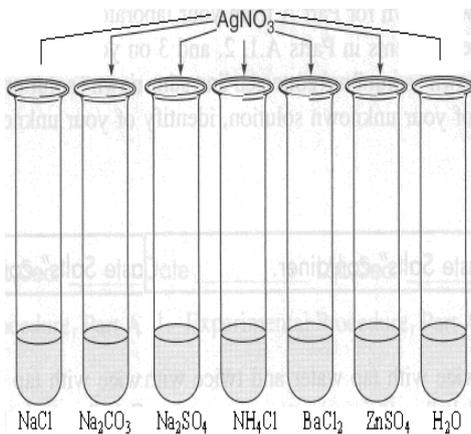
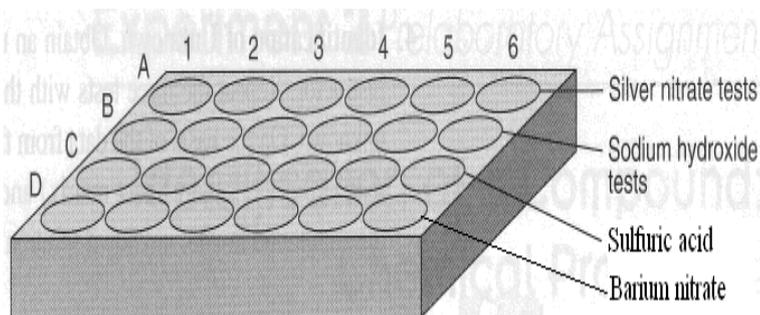
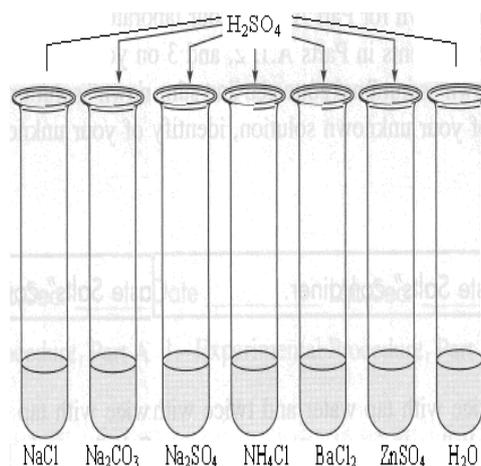
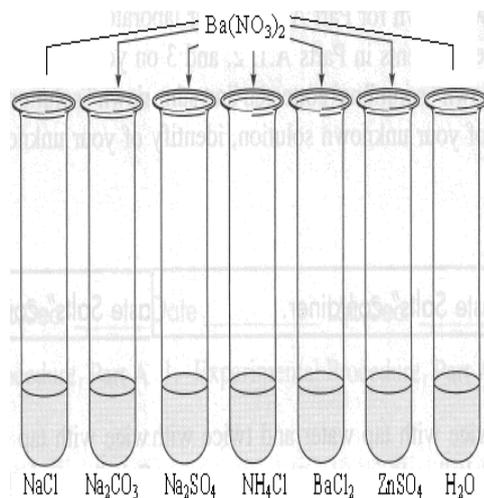

Figure 3.2a Arrangement of test tubes for testing with the silver nitrate
Figure 3.2b Arrangement of test solutions in the 24-well plate for testing salts
Figure 3.4 Arrangement of test tubes for testing with the sulfuric acid reagent
Figure 3.5 Arrangement of test tubes for testing with the barium nitrate reagent
- Use a permanent marker to label seven small, clean test tubes (Figure 3.2a) or set up a clean 24-well plate (Figure 3.2b). Ask your instructor which setup you should use. Place 5-10 drops of each of the seven "known" solutions into the labeled test tubes .
- Use a permanent marker to label seven additional small, clean test tubes (Figure 3.4). Place 5-10 drops of each of the seven "known" solutions into this four set of labeled test tubes (Figure 3.2b).
- Use a permanent marker to label seven small, clean test tubes (Figure 3.5 or set up a clean 24-well plate (Figure 3.2b). Ask your instructor which setup you should use. Place 5-10 drops of each of the seven "known" solutions into the labeled test tubes .